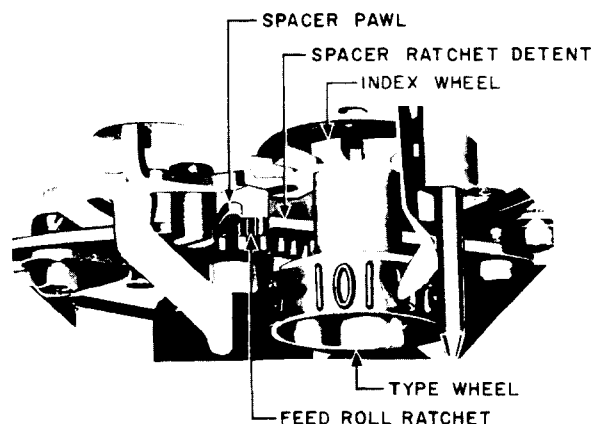

Fig. 13 — Spacer Pawl, Spacer Ratchet Detent and Feed Roll Ratchet
- (1) Remove the tape chute mounting screws using the 3-inch C screwdriver and remove the tape chute. Remove the feed roll mounting screw using the KS-6854 screwdriver. Disengage the end of the pressure bail spring from the post and swing the pressure roll away from the feed roll. Remove the feed roll assembly. Using the 7/16-inch thin wall socket wrench, remove the nut and associated lockwasher provided in the hub and remove the hub. Remove the feed roll from the shaft. Substitute the new feed roll and remount it on the feed roll shaft. Remount the hub, lockwasher, and nut and tighten the nut securely. Remount the feed roll assembly on the post so that the feed roll ratchet engages the spacer pawl and the spacer ratchet detent as shown in Fig. 13. Secure the roll in place with the mounting screw. Make sure when doing this that the two shims that were removed are between the hub and the washer.
- (2) Position the pressure roll next to the feed roll and hook the pressure roll bail spring in the groove of the post. Remount the tape chute securely with the mounting screws.
**3.11 Type Wheel:** To replace the type wheel, remove the ink roll fork and roll from the post. Remove the type wheel mounting screws and remove the type wheel. Substitute the new part. Remount the new type wheel on the shaft so that the No. 1 character on the type wheel is in alignment with the reference mark on the index wheel. See Fig. 13. Insert and tighten securely the mounting screws. Remount the ink roll fork and ink roll.